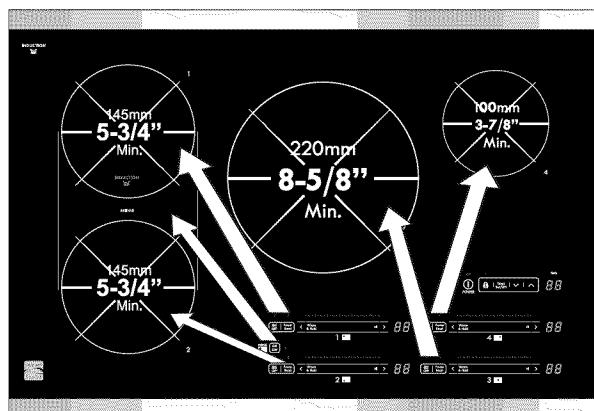

Fig. 8
- Pan does not meet the minimum size required for the Cooking Zone used (Figs. 8 & 9).
- Pan size meets or exceeds the recommended minimum size for the Cooking Zone (Figs. 8 & 9).
The Cooking Zones available on the Induction Cooktop require a **MINIMUM** pan size to be used at each location (Figs. 8 & 9).
The Induction cooktop has Cooking Zones designed for cookware of various sizes. Be sure to place cookware that meets the minimum and maximum pan size requirements (Figs. 8 & 9) for the Cooking Zone desired and is best for the amount of food being prepared. Place the cookware with the prepared food on the Cooking Zone BEFORE setting any of the Cooktop controls.